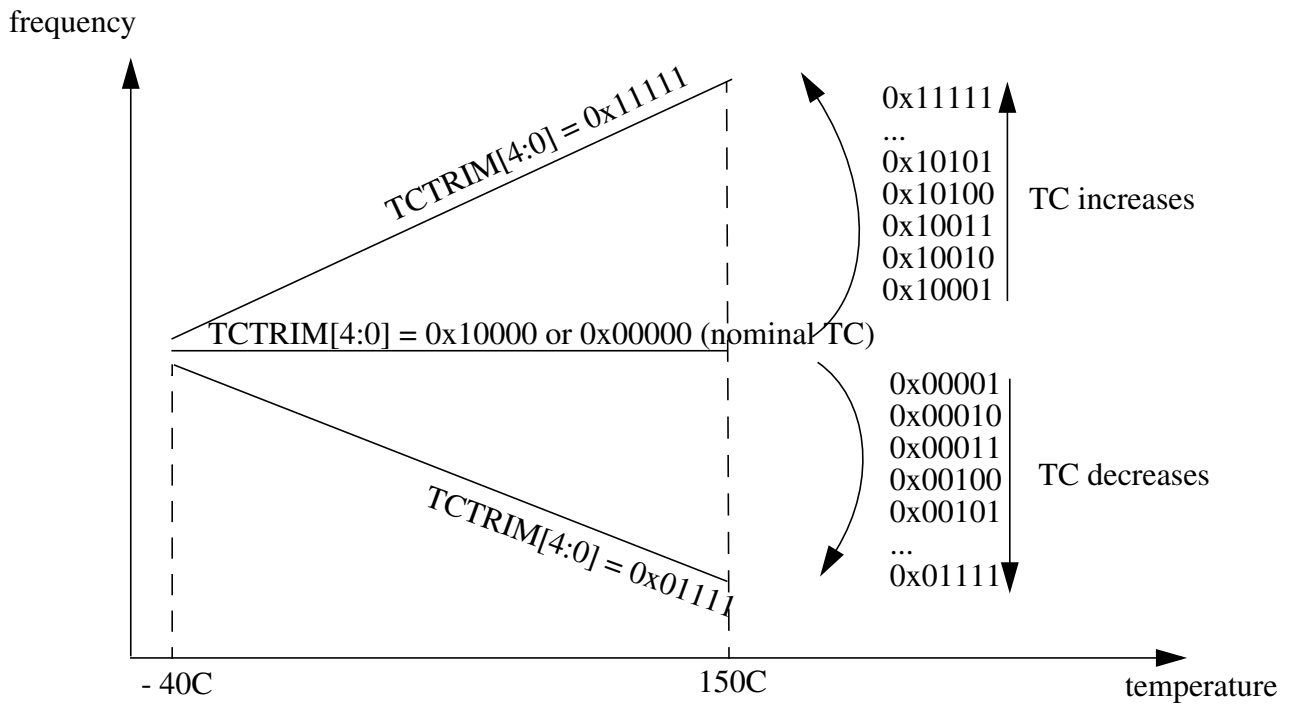

Figure 10-26. Influence of TCTRIM[4:0] on the Temperature Coefficient
15-11 TCTRIM[4:0]	IRC1M temperature coefficient Trim Bits Trim bits for the Temperature Coefficient (TC) of the IRC1M frequency. Figure 10-26 shows the influence of the bits TCTRIM[4:0] on the relationship between frequency and temperature. Figure 10-26 shows an approximate TC variation, relative to the nominal TC of the IRC1M (i.e. for TCTRIM[4:0]=0x00000 or 0x10000).